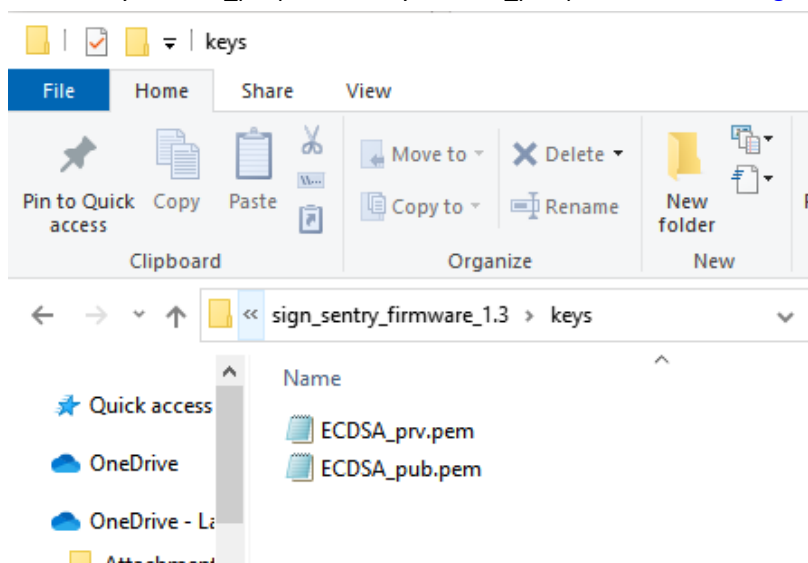

Figure 4.4. New Keys Generated
4. Two new files are produced: *keys/ECDSA_prv.pem* and *keys/ECDSA_pub.pem* as shown in Figure 4.4.